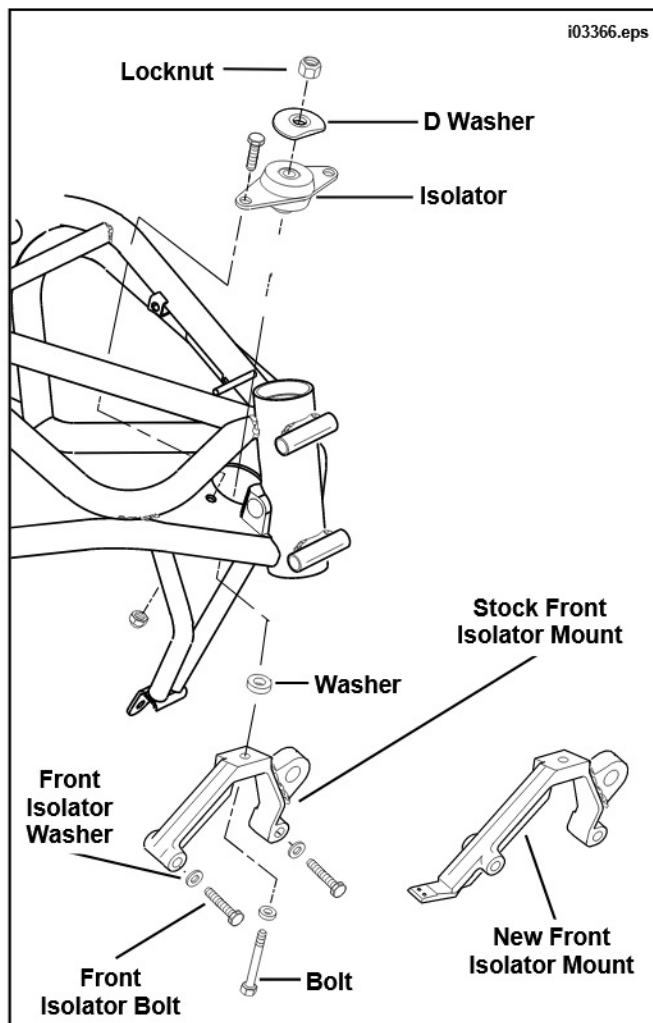

Figure 6. Isolator Mount Replacement
12. See Figure 6. From left side of motorcycle, remove and discard isolator locknut and remove bolt, two washers and "D" washer.
16. Refer to Figure 6 and Service Parts Illustration. Obtain **new** front isolator bolts from kit. Apply LOCTITE THREADLOCKER 271 (Red) to threads of new front isolator mount bolts.